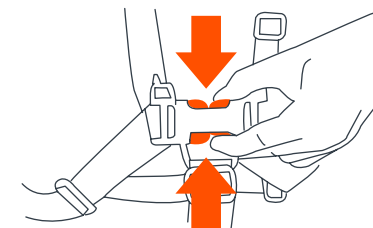

Fig. 14b
• To release, apply pressure to both sides of each male clip until the clip is released (Fig. 14b). This process requires a moderate amount of effort so as to prevent an accidental release by your child.